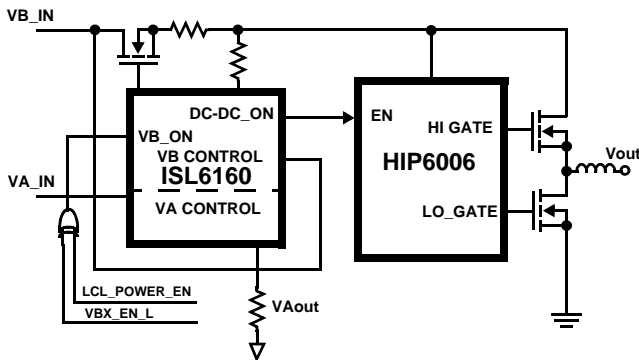
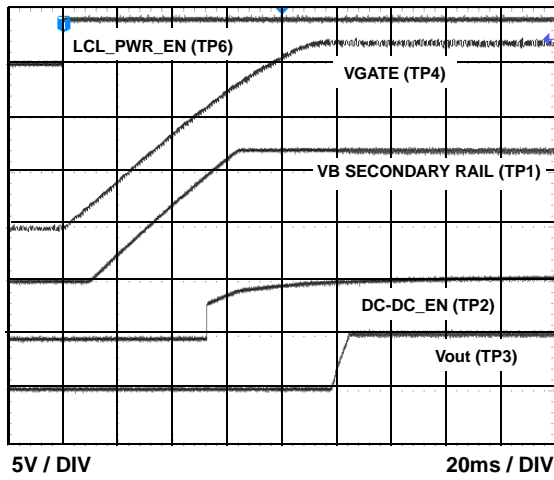

FIGURE 2. SIMPLIFIED ISL6160EVAL2 BLOCK DIAGRAM
FIGURE 19. ISL6160EVAL2 Vout TURN-ON
On the IM the ISL6160 is necessarily paired with a DC-DC converter to convert 12V to a lower usable voltage for the application circuitry. Figure 2 shows a block diagram of a complete IM power sequencer and power supply using the ISL6160 and a HIP6006, single output PWM DC-DC converter.
Available from Intersil is the ISL6160EVAL2. The ISL6160EVAL2 is a complete InfiniBand Class 1 (non isolated) power topology evaluation platform consisting of the ISL6160 and the HIP6006 single output PWM controller. See Figure 2 for a simplified block diagram of the ISL6160EVAL2 platform. This evaluation platform allows the Infiniband Module (IM) power supply designer to evaluate the concept of this design and apply it to a specific IM power requirement. The evaluation platform is configured for 5V Vout and 3A Iout capability and exhibits a 92% total efficiency. See Figures 19 and 20 for ISL6160EVAL2 turn-on and turn-off waveforms.